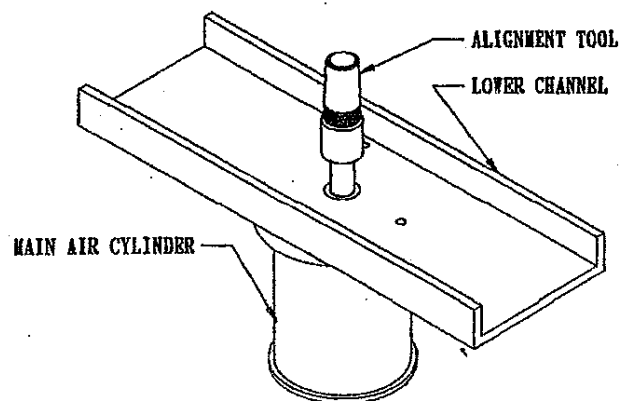

FIG 1
1. Remove the four (4) screws on the top lid of the TEKCASTER and open it, exposing the upper channel and SKF nut assembly.
4. Open the door on the TEKCASTER allowing the mold to drop down completely. Remove the mold, bottom plate, and the thrust bearing adapter from the TEKCASTER. Adjust the air regulator to zero (0) pressure. Turn off the spin-caster with the on/off switch.
6. Place the alignment tool on the shaft of the main air cylinder. Refer to Fig 1.